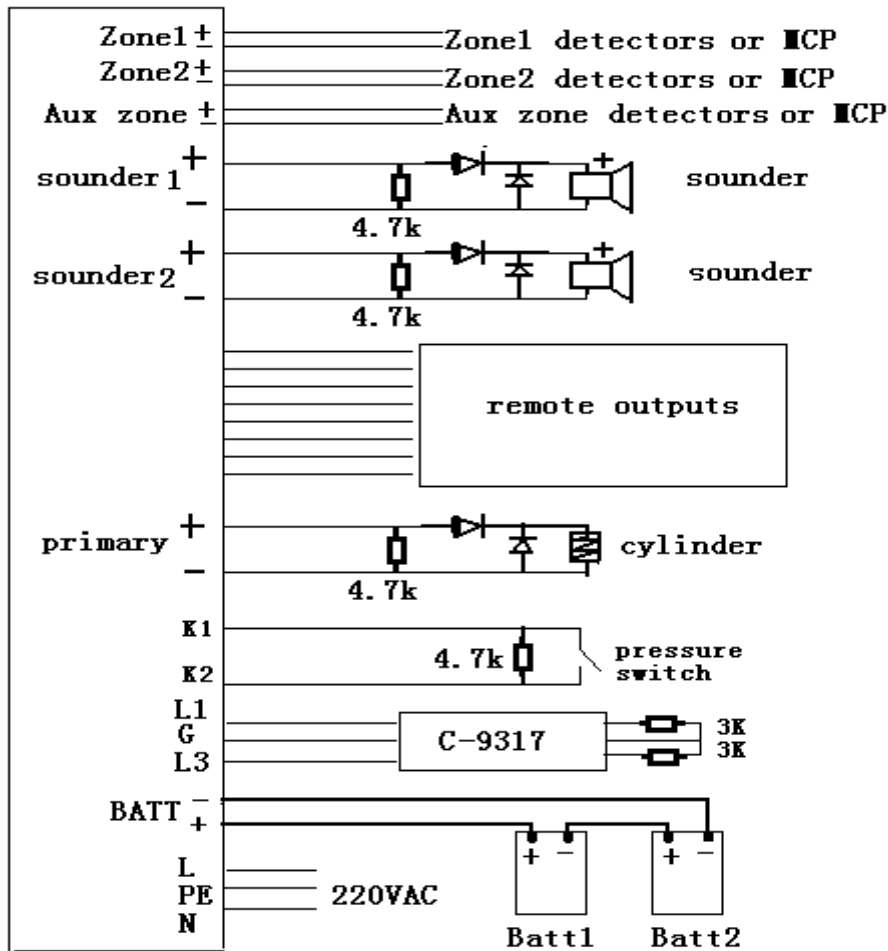

Fig. 13 Typical system connection
3) Typical system connection is shown in Fig. 13.